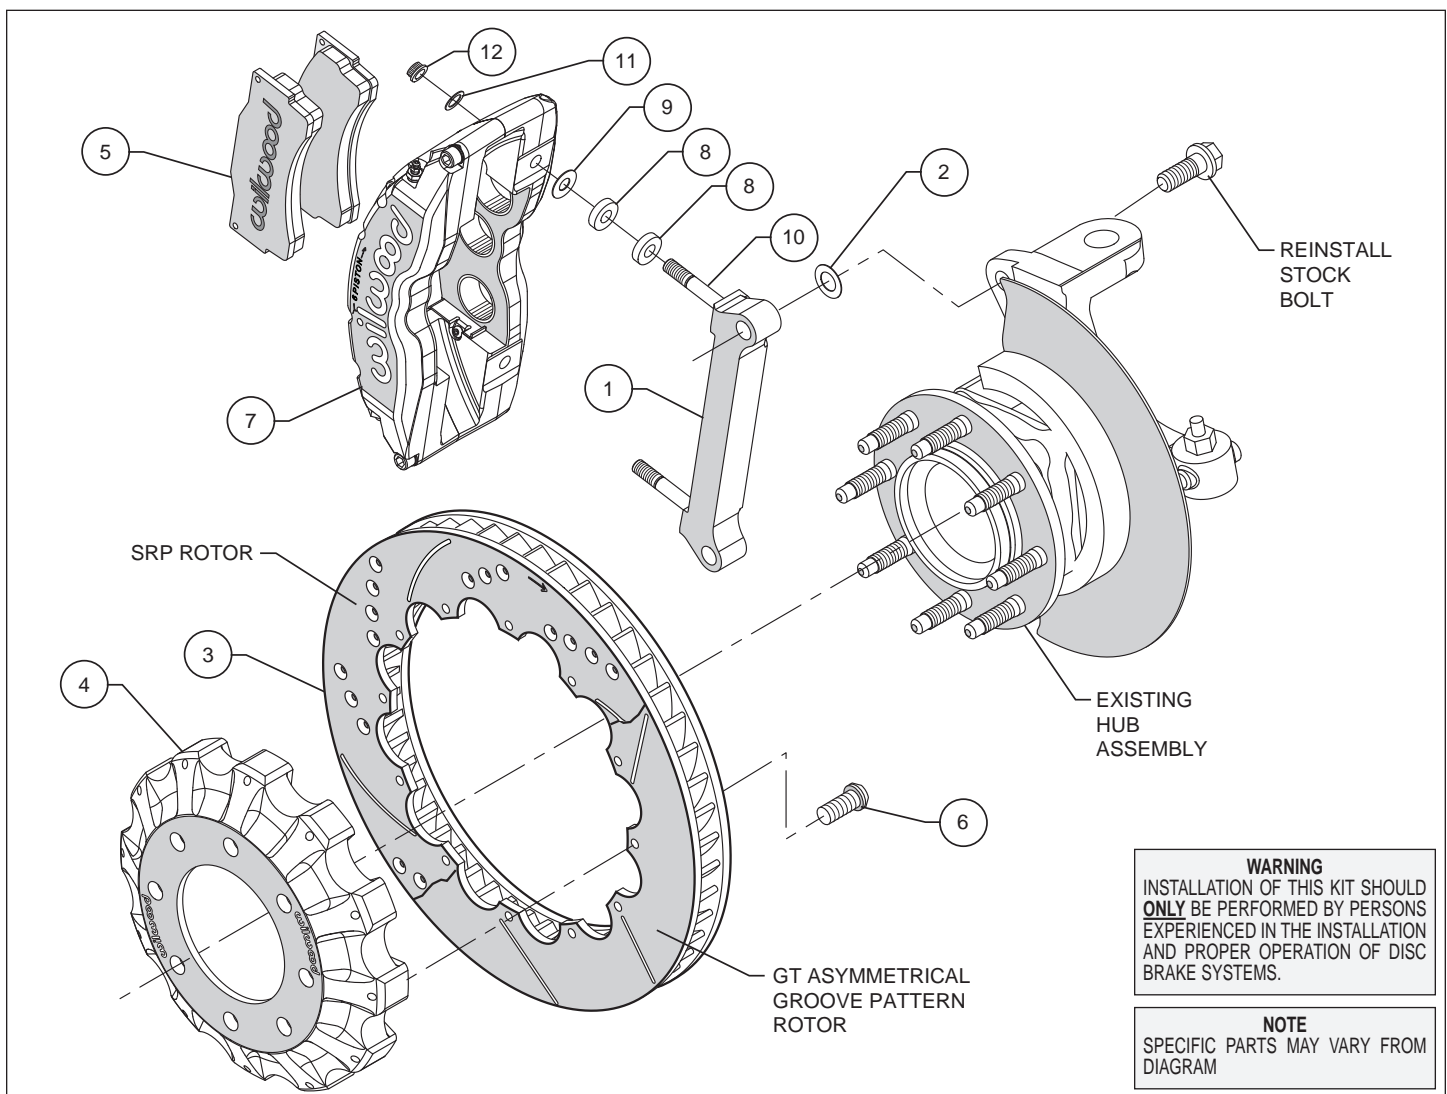

Figure 1. Typical Installation Configuration
- The caliper mounting bracket assembly (1) should be installed first with clean, dry threads on the mounting bolts. Install the bracket to the outboard side of the spindle by sliding the stock bolt through from the backside into the bracket(1). Place shim washer (2) between the bracket (1) and the spindle (see Figure 1). The bracket must tighten squarely against the side of the spindle body. Inspect for interference from casting irregularities, machining ridges, burrs, etc. Use one thin shim (2) between the bracket (1) and spindle during initial trial fitting.
- With the larger I.D. side of the rotor (3) facing away from the hat (4), attach rotor (3) to hat (4) using bolts (6) as shown in Figure 1. Finger tighten. Using an alternating sequence, remove bolts (6) one at a time, apply red *Loctite*[®] 271 to the threads and torque to 25 ft-lb.
- NOTE:** *Please reference the caution statement at the beginning of the assembly instructions.* Install two spacers (8) and one shim washer (9) over each pre-installed stud (10) on the radial mount bracket (1). Slide the caliper (7) in place over the studs and rotors and install the washer (11) and lock nut (12) to hold the caliper in place. The caliper bleed screws should be pointing up. Snug the lock nuts (12) and check that the rotor (3) is centered in the caliper (7). Add or subtract .024" shims (2) as necessary between the caliper mounting bracket (1) and the spindle to center the caliper (7).
- Remove the two caliper center bridge pad retainer bolts, nuts, tubes, and anti-rattle spring from the caliper. Slide the brake pads (5) into place. They should install easily without interference. Check that the outside radius of the brake pad is aligned with the outside diameter radius of the rotor face. Add or subtract shims (9) between the caliper and mount bracket to gain the proper alignment. Reinstall the center bridge pad retainer tubes, bolts, locknuts and anti-rattle spring. The locknut should be snug without play in the bolt or tube. Be cautious not to over tighten.
- Once all clearances have been checked, remove the wheel, caliper, hat, and rotor from the spindle and hub. Secure the caliper mounting bracket (1) to the spindle with stock bolts using red *Loctite*[®] 271. Torque the bolts to manufacturer's specification. Reinstall the hat and rotor assembly and again use lug nuts to hold it in place. Lubricate caliper mounting studs and nuts with lightweight oil, reinstall the caliper, torque the caliper nuts (12) to 47 ft-lb.